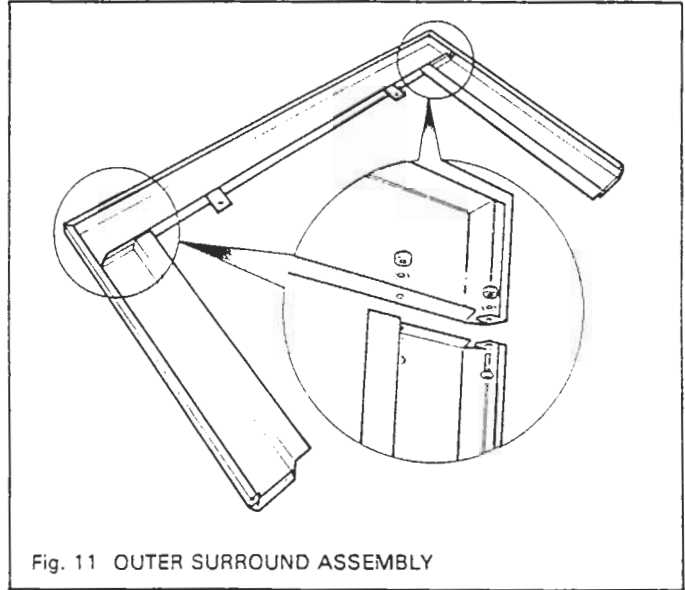

Fig. 11 OUTER SURROUND ASSEMBLY
2.2.4.1 Assemble the two outer surround sides to the top cross piece using the four nuts, screws and washers provided (see fig. 11).